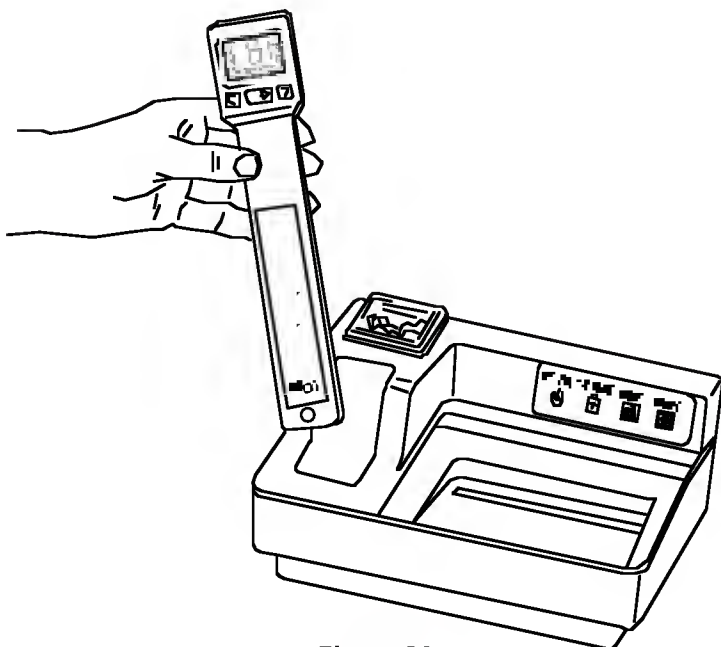

Figure 20
1. Place the MicroTympanometer 2 Handle in the well with the Liquid Crystal Display (LCD) and buttons facing you. See **Figure 20**.